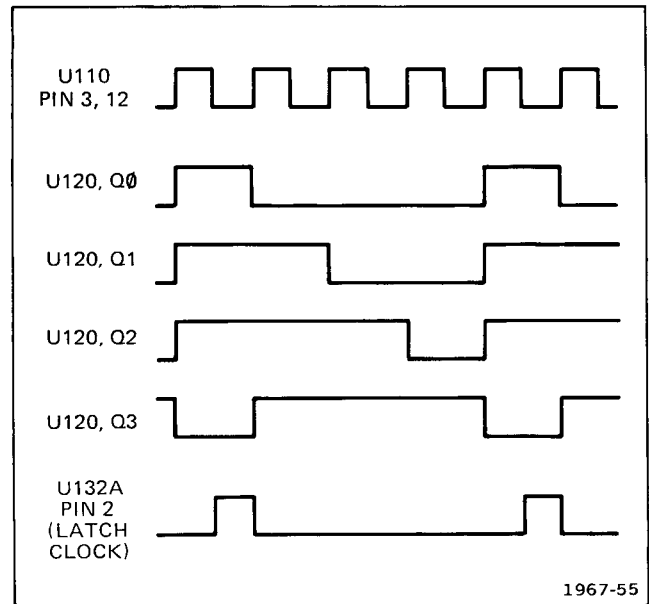

Fig. 3-4. Latch Clock timing for 4-channel operation.
**FOUR CHANNEL.** Figure 3-4 shows the timing of the Latch Clock outputs for 4-channel operation. When FORMAT switch, S110, is set for 4-channel operation, pins 12, 11, and 9 of U120 are held HI. When the Q2 output of U120 (also connected to pin 10 function select input) is LO, the next rising edge of the clock transfers the data at the D0 through D3 inputs to the outputs. When the data from the FORMAT switch is transferred to the outputs, the Q0, Q1, and Q2 outputs go HI (the D3 input is open or LO). A HI level at the S1 input (pin 10) sets U120 into the shift left mode. Each rising edge of the clock signal moves the data